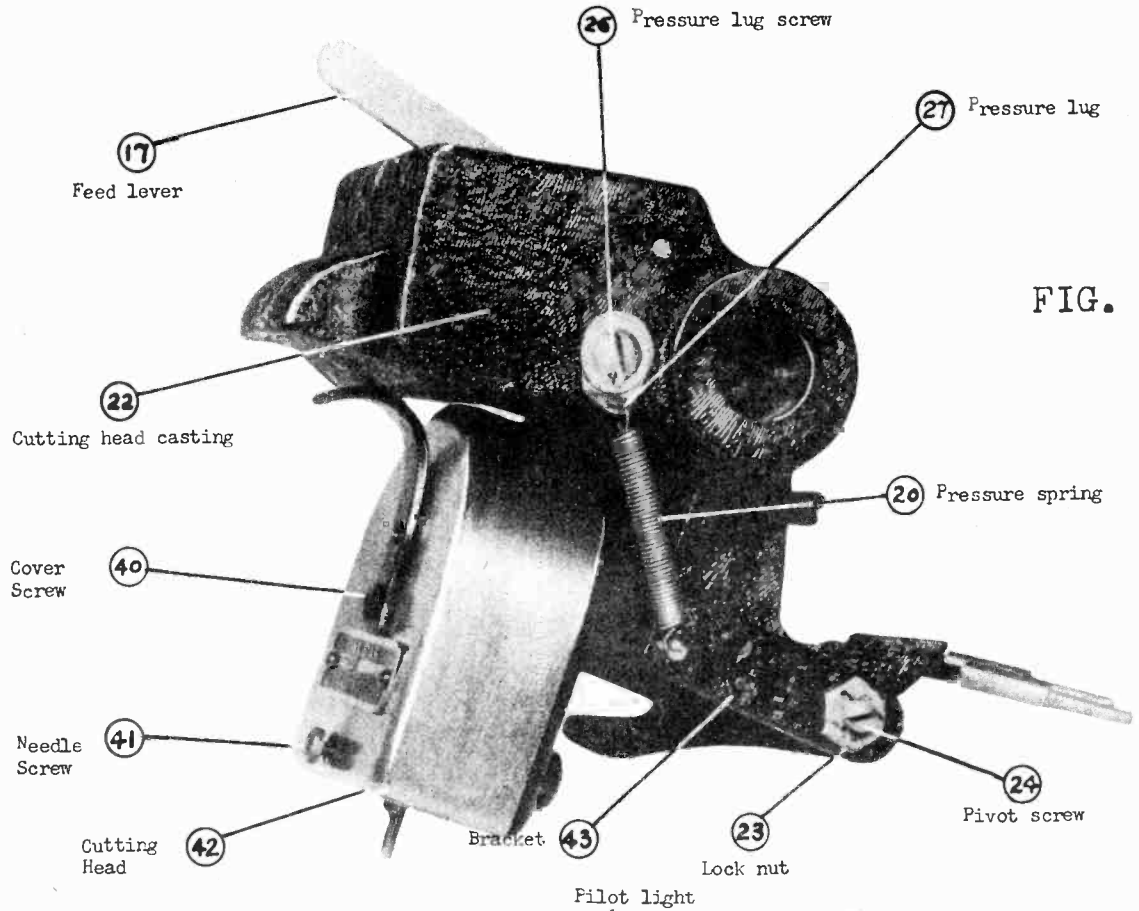

FIG. 7
The depth of cut is dependent on the pressure on the needle point. The cutting head is counterbalanced by means of a small pressure spring (20) Fig. 7 located on the cutting head casting (22). This pressure spring is adjusted for the proper tension at the factory and this adjustment should not be tampered with unless absolutely necessary. In case an adjustment should be necessary on this spring the procedure outlined below should be followed:
With a small wrench or a pair of pliers loosen the two lock nuts (23) Fig. 7. Then loosen the two pivot set screws (24) enough so that the head moves freely up and down. The pivot screws (24) must not be so loose that the bracket (43) will have play from side to